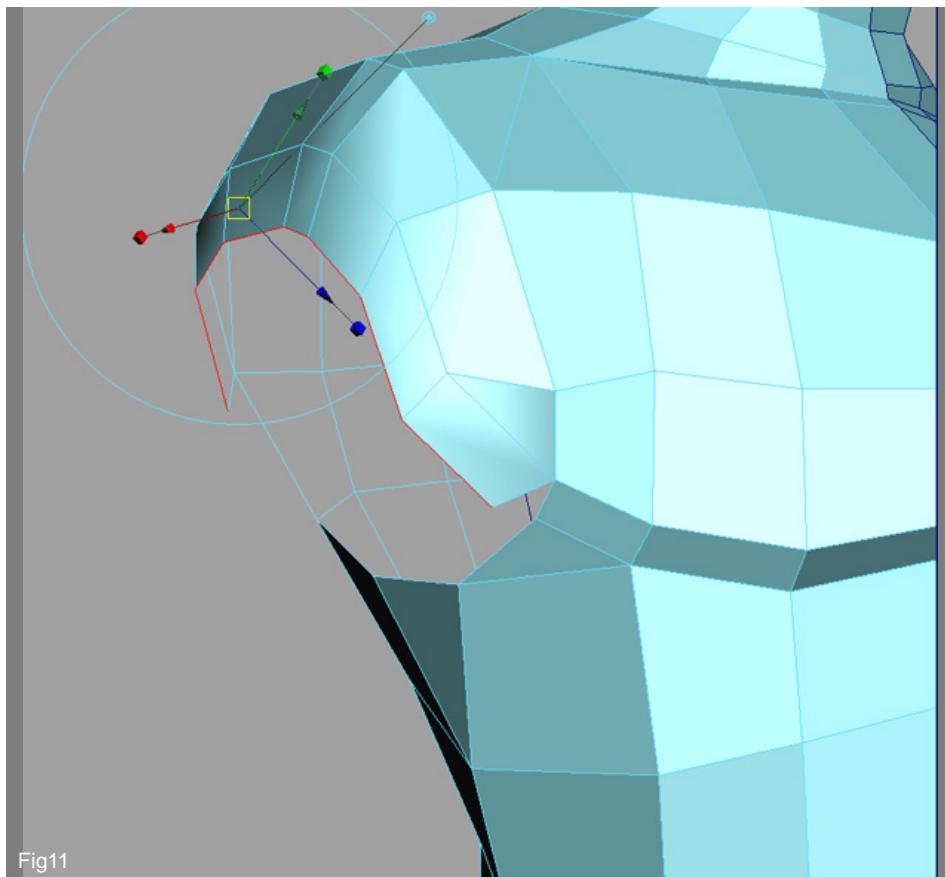

Fig11
11. Select again the seven edges and extrude them once again. (Fig11)